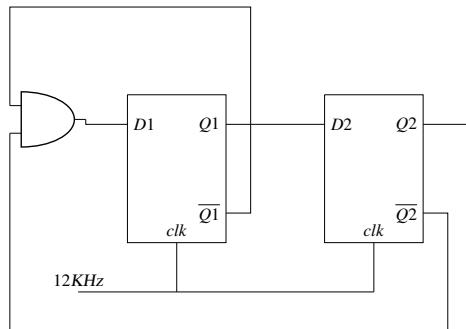

Fig. 5.17
17. In the circuit shown in Fig. 5.17, the clock frequency, i.e., the frequency of the  $clk$  signal, is 12 KHz. The frequency of the signal at  $Q2$  is \_\_\_\_\_ KHz.